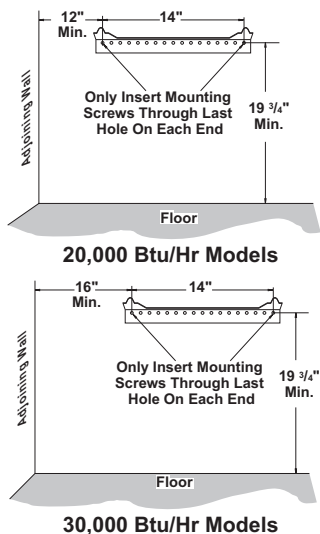

Figure 7 - Mounting bracket Clearances
2. Mark screw locations on wall (see Figure 7).